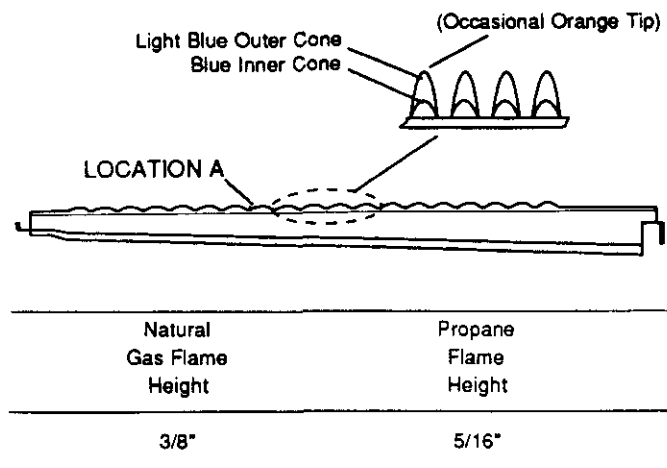

Figure 53 (4-033)
- A. Furnace operates more efficiently with a taller burner flame at blower end of furnace. This design extracts more heat from heat exchanger. Figure 53 illustrates approximate burner flame height of first primary mantle at middle of burner.